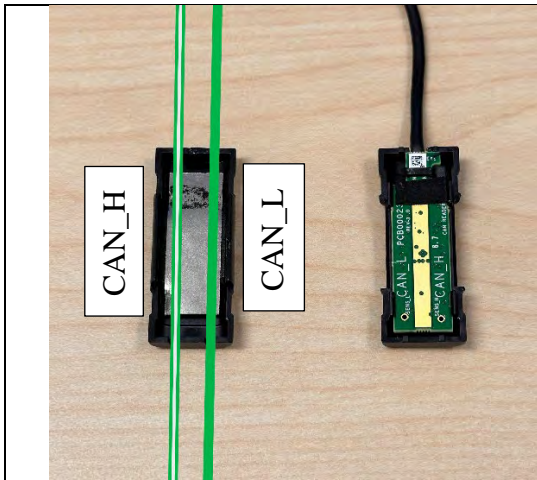

Figure 75
84. Align the new CAN reader so that CAN_H aligns with the CAN high (Striped color) wire and CAN_L aligns with the CAN low (Solid color) wire and snap it into the cap. (See Figures 75 and 76.)